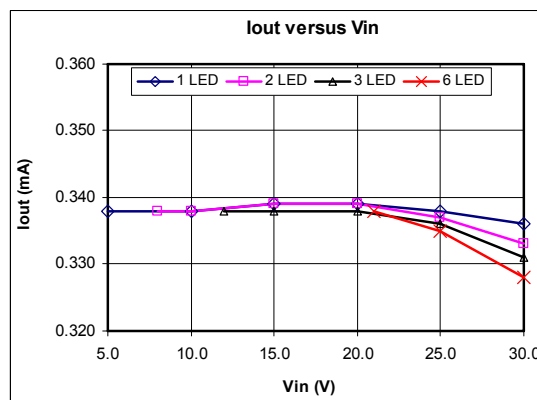

Fig. 5: Output Current vs Input Voltage
i) Place the bypass capacitors C4 and C5 as close as possible to the XRP7603 IC. See figure 5 for details.